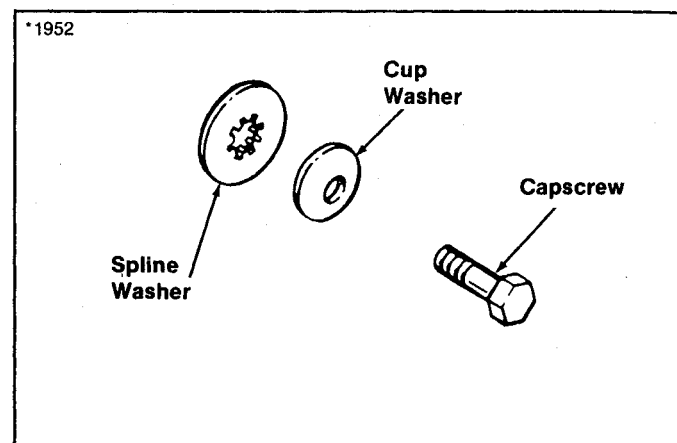

Figure 20. Blade Hardware
1. Reinstall the blade(s) with the tabs pointing upward. Install the spline washer, cup washer, and capscrew (see figure 20). Be sure the splines on the spline washer are engaged with the shaft splines. Be sure cup washer is installed with the concave side up.